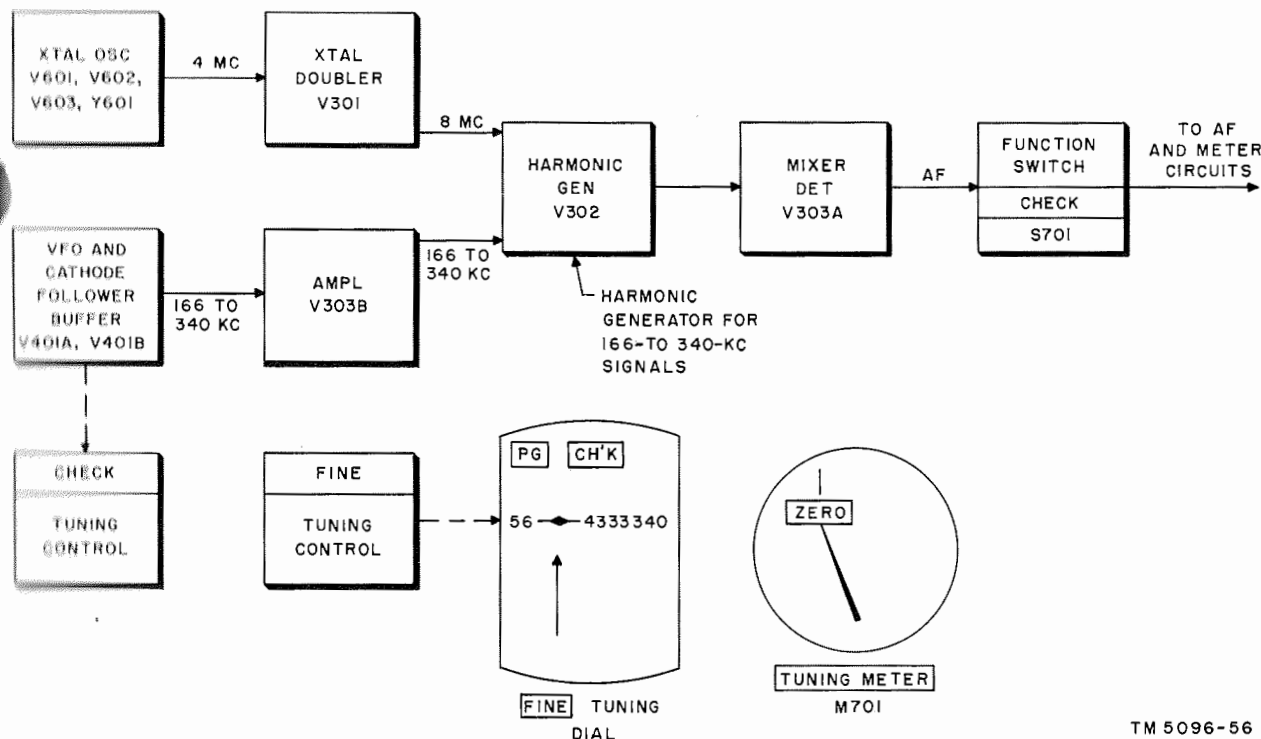

Figure 14. CHECK position, block diagram.
- (ii) *CHECK position* (fig. 14). When the FUNCTION SWITCH is placed in the CHECK position, the vfo stage is calibrated by heterodyning the harmonics of this oscillator with the second harmonic of the crystal oscillator. This procedure takes place as follows: the 4-mc output of the crystal oscillator stage is fed to doubler stage V301 and its 8-mc output is fed to harmonic generator V302. Also fed to V302 is a signal tuned by the CHECK calibration control in the 166-to 340-kc range from vfo stage V401